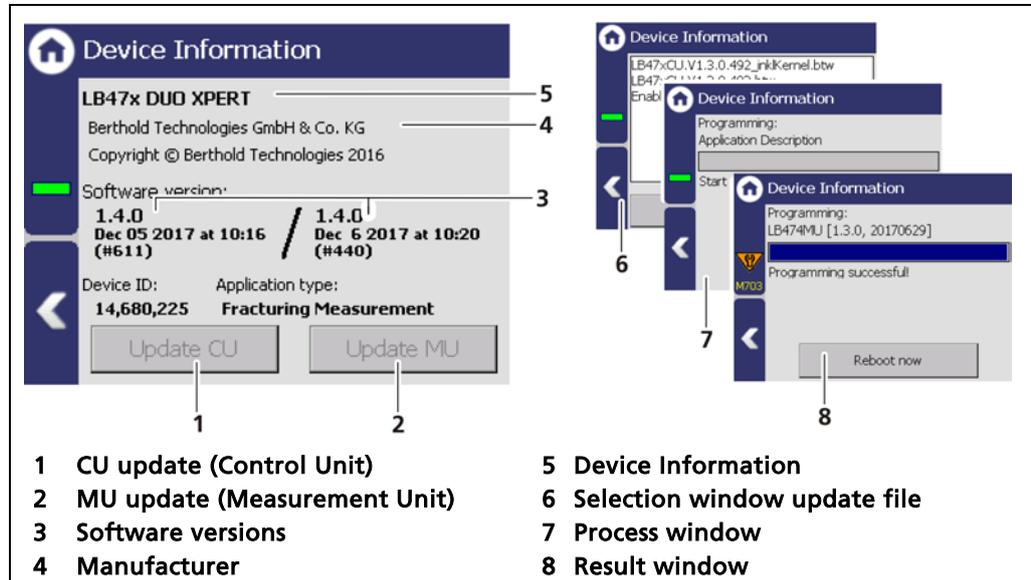

Fig. 41 Device information
3. The USB storage device is recognised by the system after a few seconds and the <CU Update> (Fig. 41, item 1) button can be clicked.
4. Click on the button <CU Update> (Fig. 41, item 1).
3. The USB storage device is recognised by the system after a few seconds and the <MU Update> (Fig. 41, item 2) button can be clicked.
4. Click on the button <MU Update> (Fig. 41, item 2).